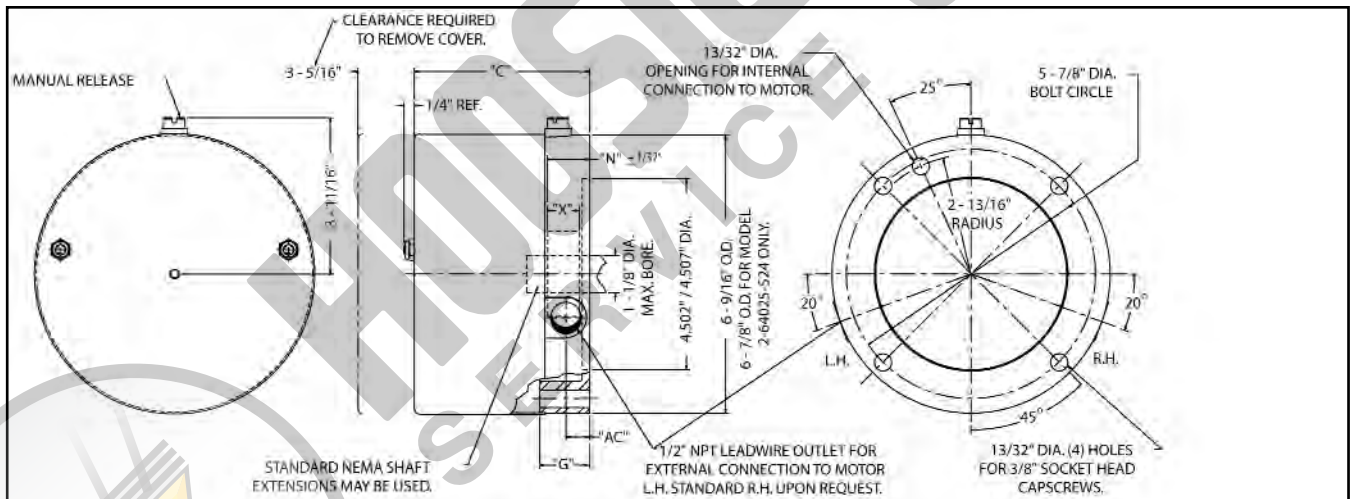

Figure 1
1. Remove hub (1) from brake and position it on motor shaft with key as shown in Fig. 1. Stamped part number on hub should face away from motor. Tighten hub setscrews with 8 to 10 lb. ft. torque.
NOTE: Dimension "G" (Fig. 1) is the length of the mounting hole through brake bracket.